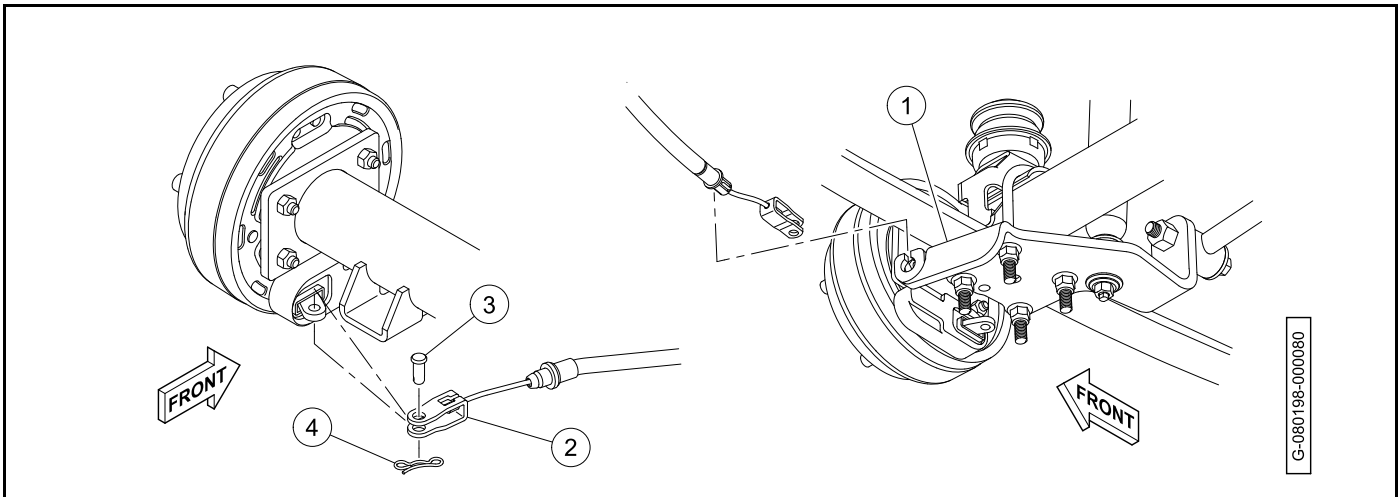

Figure 6-32
2. Hold the brake actuator rod (1) and the equalizer bracket (2) in the upright position and slip the cable head through the hole on top of the bracket. Pivot the equalizer to the horizontal position to capture the cable heads in the equalizer.
3. Insert the rear cable housing into the shock mount bracket (1) **(Figure 6-32)**.